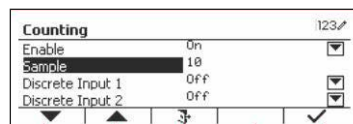

Figure 55
4. Select the list item and press the button corresponding to the ✓ icon to change the setting as desired. After completion of I/O's setup, press the softkey corresponding to the  icon to return to the main application screen. (See Figure 55)